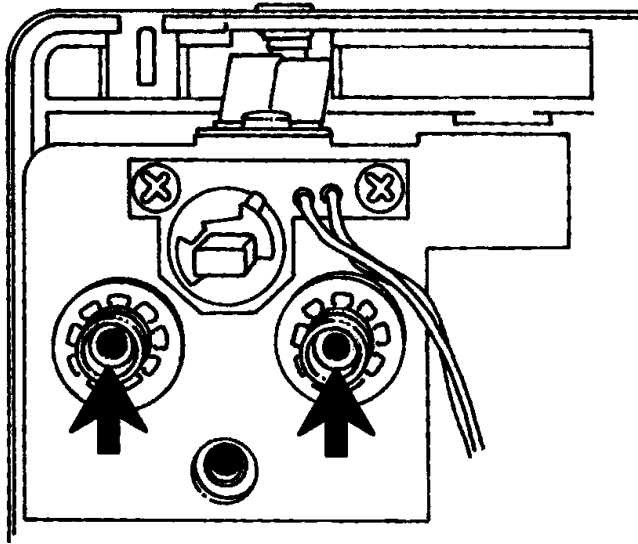

Figure 17 Disconnect Air Lines From Fittings on Back of Air Gauge
9. After bleeding the air system, disconnect the air lines from the fittings on the back of the air gauge. A double needle air pressure gauge is used with vehicles with air brakes (Figure 17).